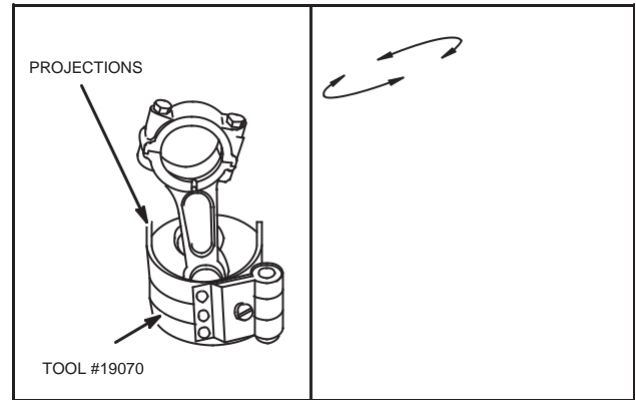

Fig. 2 - Compressing Rings
1. Oil piston rings, piston skirt, and compress rings with Ring Compressor Tool #19070, Fig. 2.
- c. Then loosen ring compressor very slightly so that compressor can be rotated on piston skirt while holding connecting rod, Fig. 2.